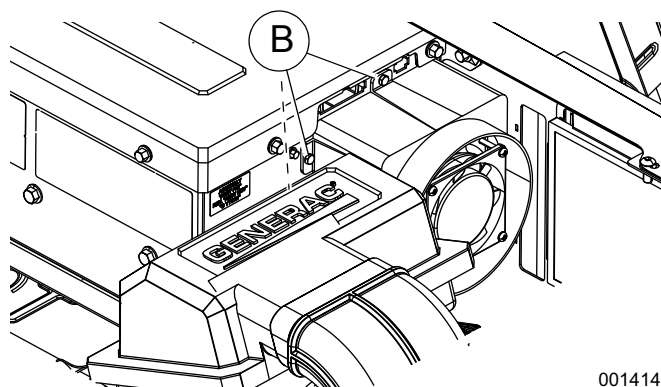

Figure 4-10. Remove AVR Fan Screws
4. See Figure 4-10. Remove three screws (B) to release AVR fan from AVR.